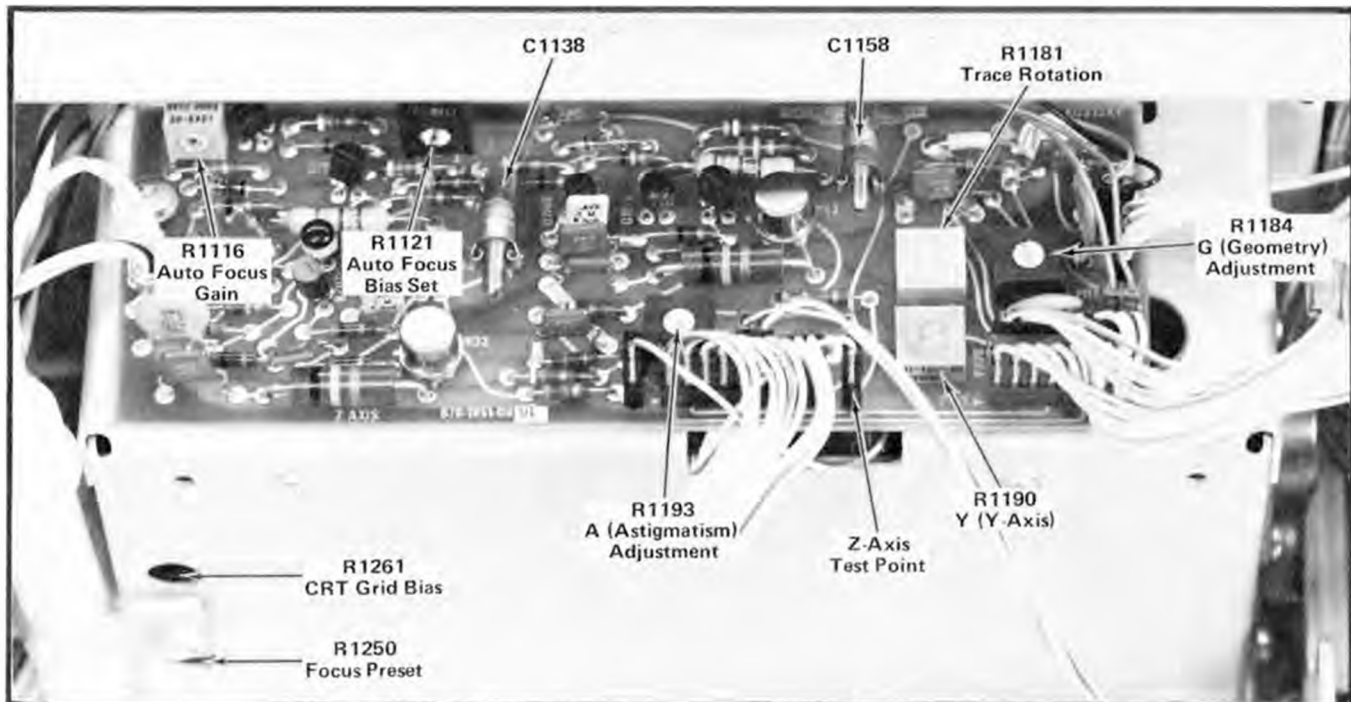

Fig. 3-2. Location of Display and Z Axis adjustments and test points.
- d. Connect a 10X probe from the test-oscilloscope to the Z-Axis test point (see Fig. 3-2) and the probe ground lead to chassis ground.
g. ADJUST—CRT Grid Bias adjustment R1261 (see Fig. 3-2) until the trace on the 7603 is just extinguished. Set INTENSITY or a viewable trace.
f. ADJUST—FOCUS control and A (Astigmatism) adjustment R1193 (see Fig. 3-2) to obtain best display definition.
d. ADJUST—Trace Rotation adjustment R1181 (see Fig. 3-2) to align the trace with the center horizontal line.
d. ADJUST—Y-Axis adjustment R1190 (see Fig. 3-2) to align the trace with the center vertical line.
l. ADJUST—Geometry adjustment R1184 (see Fig. 3-2) for minimum bowing of time markers. Adjustment may have to be compromised to obtain less than 0.1 division bowing and tilt everywhere within the graticule area.